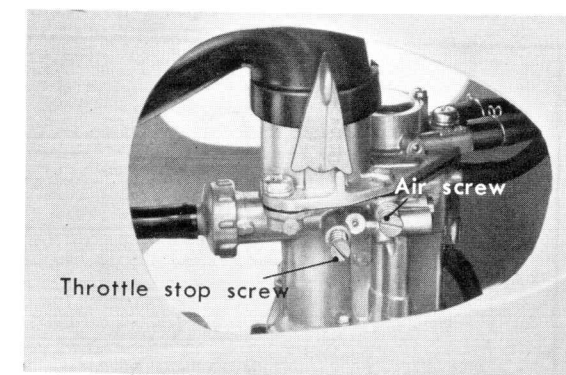

Figure 3-105. Idle adjustment
d. Adjusting the Idle (Fig. 3-105, 3-106)